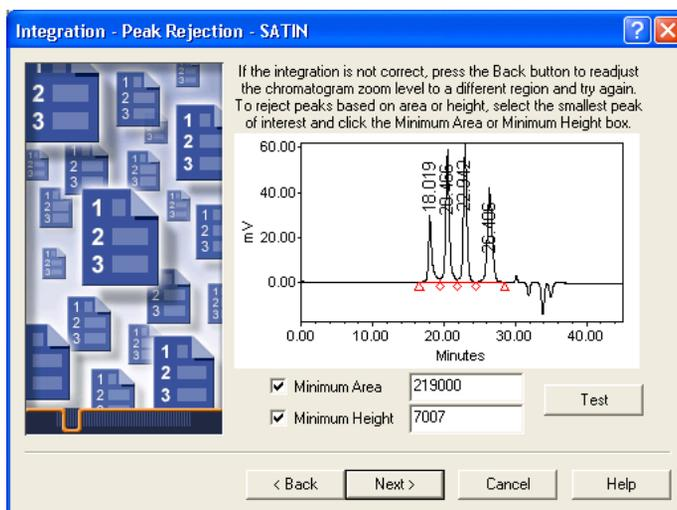

Figure 2-9 Setting Minimum Area and Height
17. When you are satisfied with the integration region, click **Next** to go to the Integration–Peak Rejection page (Figure 2-9). This page allows you to reject peaks based on area or height.